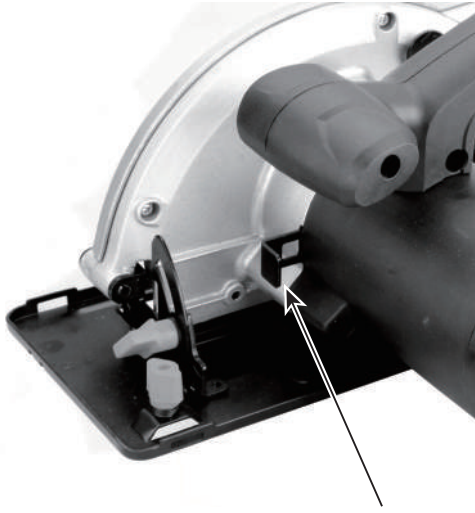

Fig. 3 13
2. Push the spindle lock button (13) toward motor housing as the arrow shows in fig. 3 and firmly hold it.
3. Turn the blade clamp bolt (11) anti-clockwise .
4. Remove the blade clamp bolt and outer flange (10).
5. Raise the lower guard (12) by using the lever for lower guard (1), and then remove the saw blade.